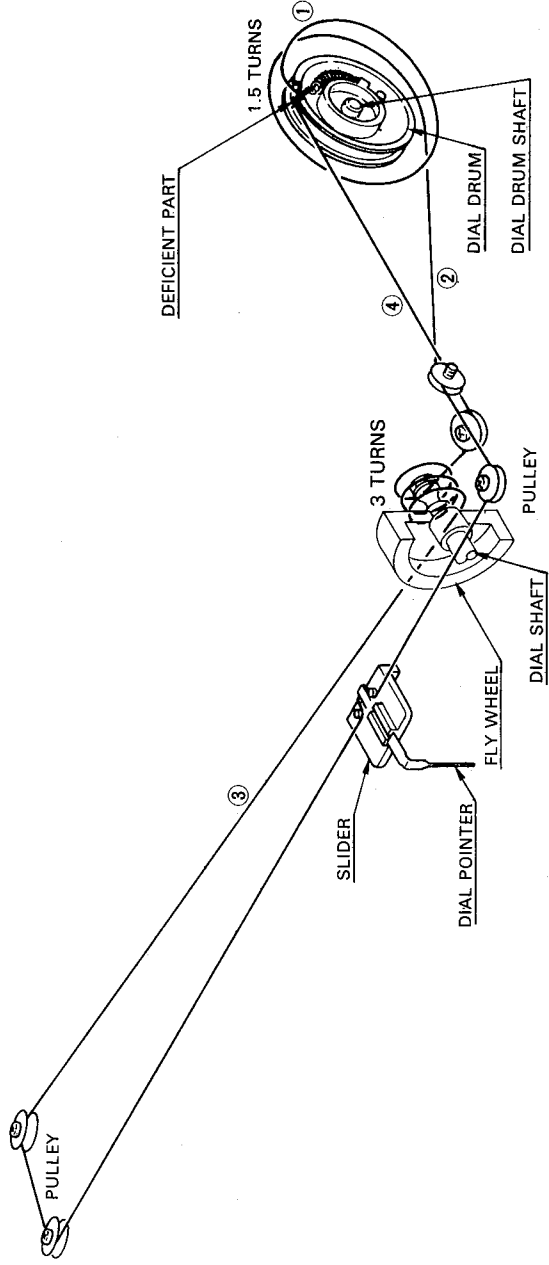

Figure 16
3. String the dial drum and pulleys with a new dial cord in accordance with Fig. 16 (in circled numbered order).